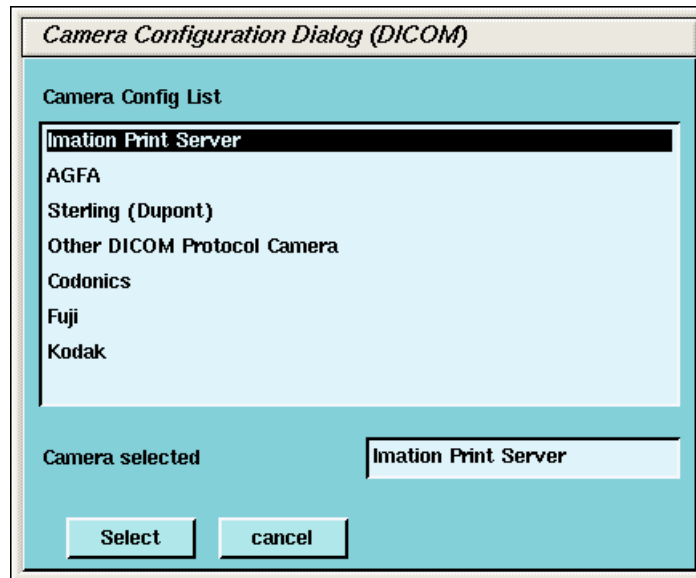

Figure 7-13 Camera Model Dialog (DICOM)
- a.) A list of camera models appears (See Figure 7-13). Select the appropriate model from the list and click **SELECT**. Clicking **SELECT** presets all the parameters to that models except the Network parameters.